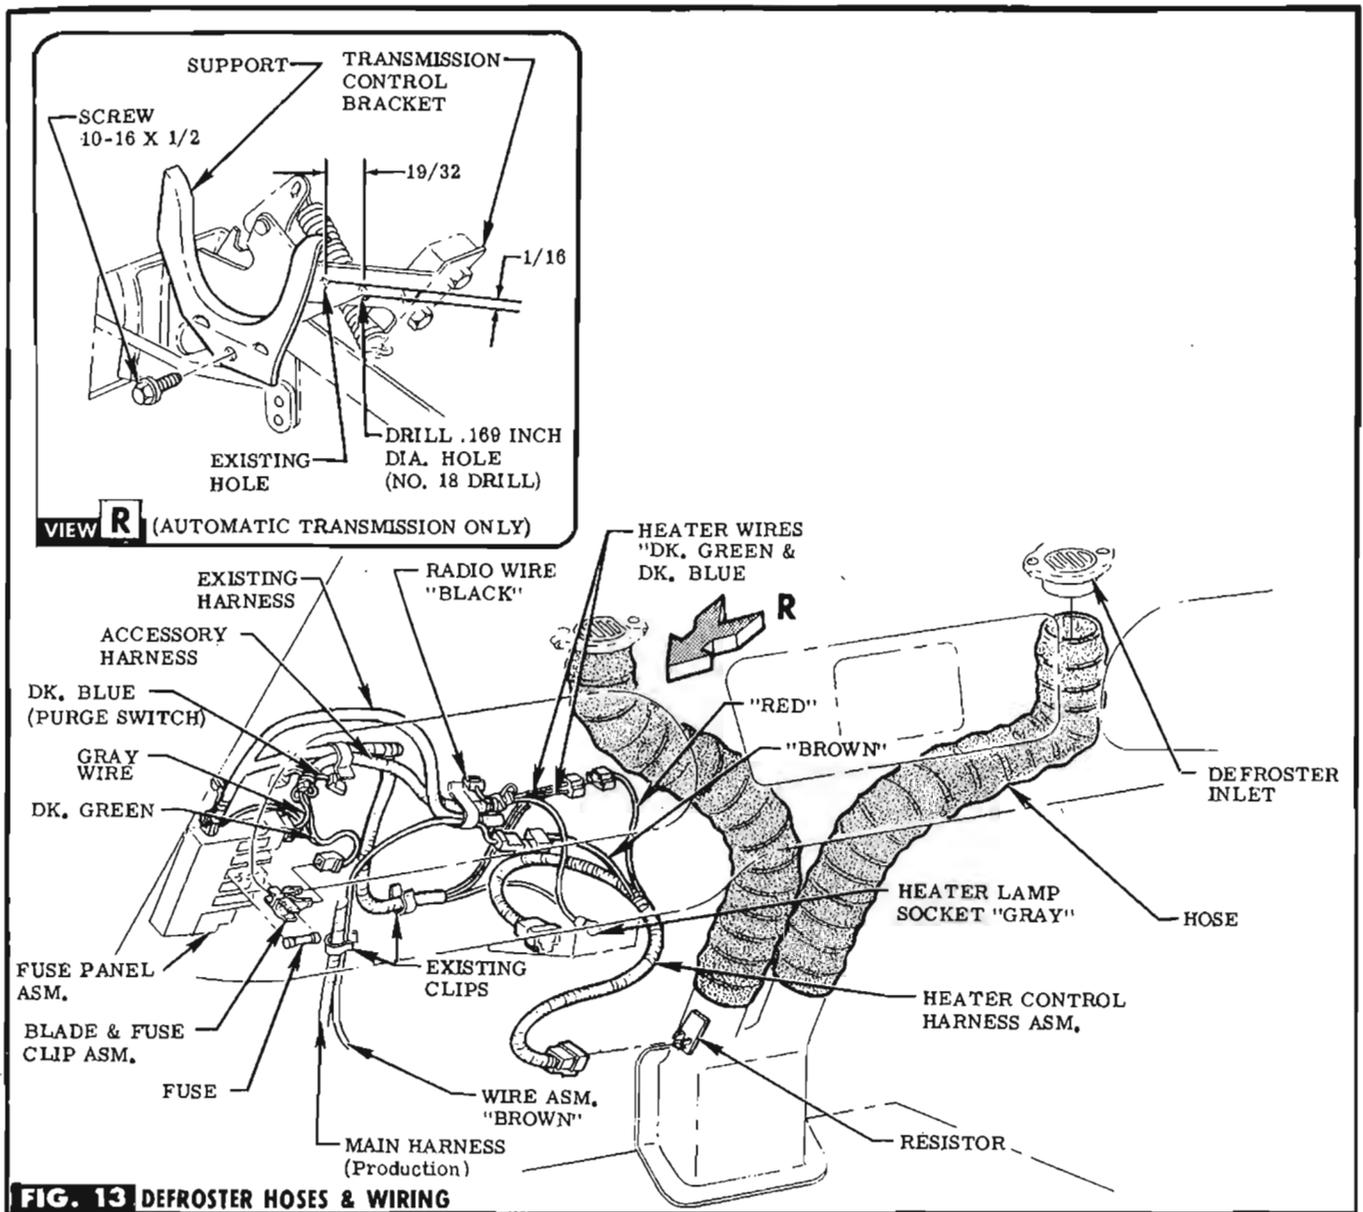

FIG. 13 DEFROSTER HOSES & WIRING
STEP 68 REMOVE INSTRUMENT PANEL COMPARTMENT, INSTALL DEFROSTER HOSES ON INLETS & DISTRIBUTOR ASM, SEE FIG. 13. REPLACE INSTRUMENT PANEL COMPARTMENT. **NOTE** If automatic transmission exists route L. H. hoses over hose support.
STEP 69 INSTALL BLADE & FUSE CLIP INTO RECEPTACLE MARKED "HEATER B. U. LPS." ON FUSE PANEL, SEE FIG. 13.
STEP 70 UNTAPE DK. GREEN WIRE CONNECTOR FROM EXISTING HARNESS & PLUG INTO FUSE CLIP PREVIOUSLY INSTALLED. SEE FIG. 13.
STEP 71 IF ACCESSORY HARNESS HAS BEEN INSTALLED, UNTAPE & PLUG GRAY LEAD CONNECTOR INTO RECEPTACLE IN FUSE PANEL MARKED "PANEL LPS." SEE FIG. 13.
STEP 72 PLUG LOOSE END OF HEATER CONTROL HARNESS ASM. INTO RESISTOR ON DISTRIBUTOR. SEE FIG. 13.
STEP 73 CONNECT RED LEAD FROM HEATER HARNESS WITH DK. BLUE & GREEN WIRE CONNECTOR (FROM EXISTING OR ACCESSORY HARNESS), ROUTE BROWN LEAD (FROM GROMMET IN TOE PANEL) ALONG EXISTING HARNESS & CONNECT TO BROWN LEAD OF HEATER HARNESS, SEE FIG. 13.
STEP 74 INSERT FUSE INTO FUSE CLIP ASM, PREVIOUSLY INSTALLED. SEE FIG. 13.